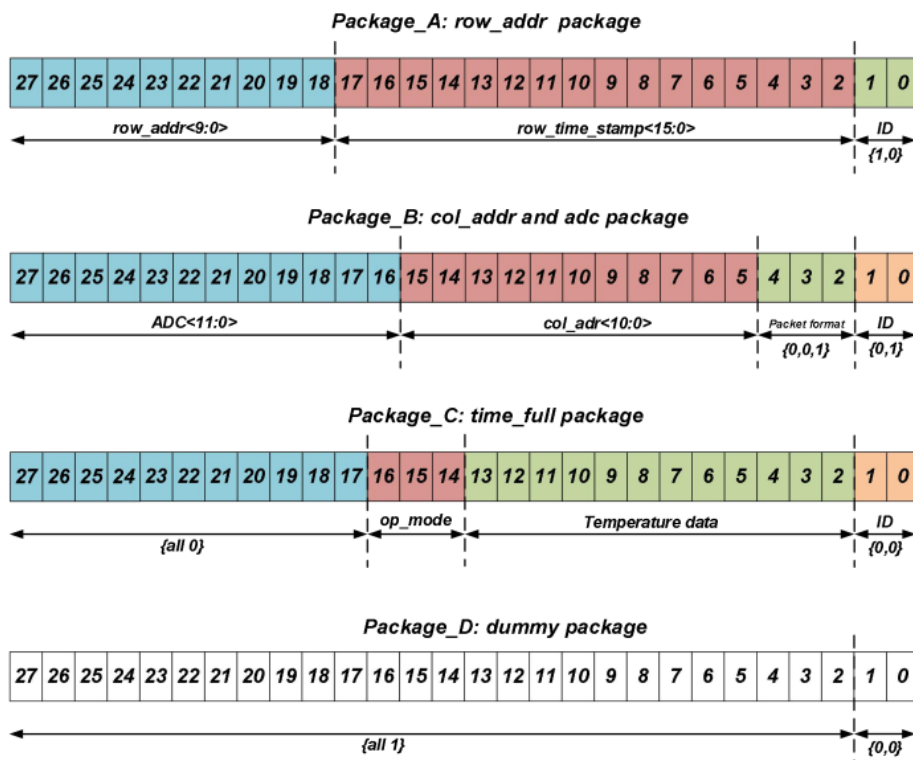

Fig 1-12 Format 1: 28-bit packet with ADC data
The Format 1 also has 4 packages as shown in Fig. 1-12, each of which is 28-bits. The lowest 2 bits represent the type (ID) of the package. For example, if ID = 2b'10, it means Package_A, from which the row address and row timestamp could be parsed. It differs from Format 0 in that the ADC information has 12 bits and the row timestamp has 16 bits.